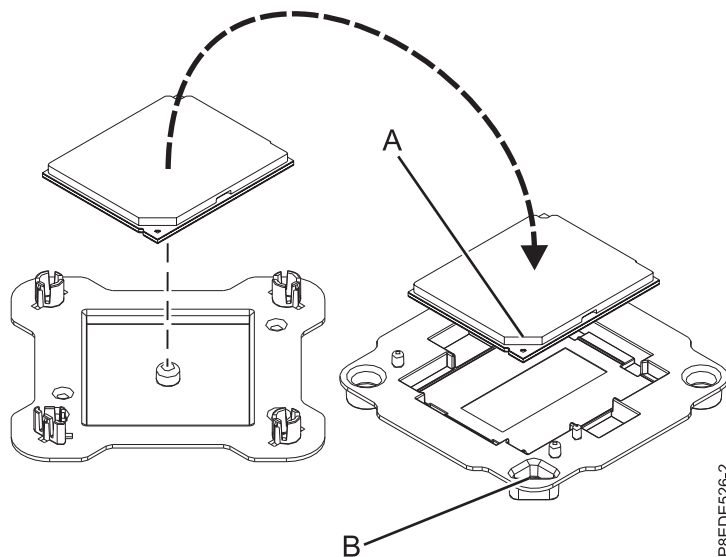

Figure 21. Placing the system processor module into the packaging
11. Lightly grip the system processor module that you replaced by the edges and lift it off of the packaging cover. Align the beveled corner of the module (A) to the corner of the packaging with triangle (B) and place it in the packaging, as shown in Figure 21. Close the packaging cover.